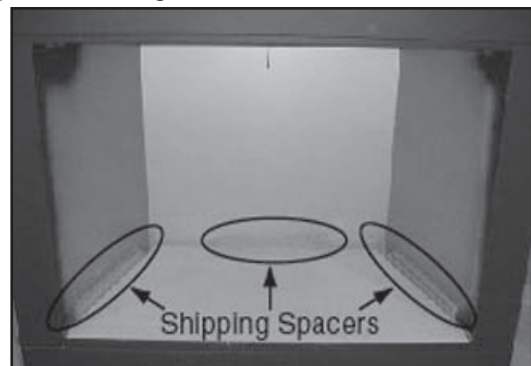
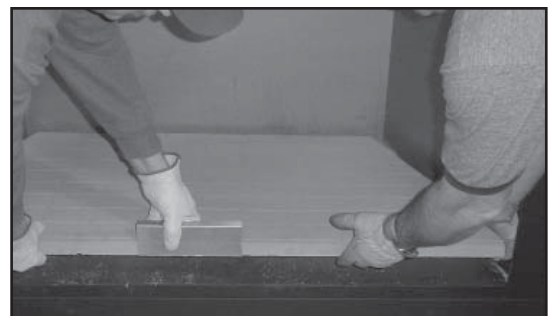

Figure 4.9 Shipping Spacers
Figure 4.10 Lifting Out the Hearth Stone
- Remove hearth stone by removing three corrugated shipping spacers (Figure 4.9). Lift hearth stone out of fireplace. See Figure 4.10.